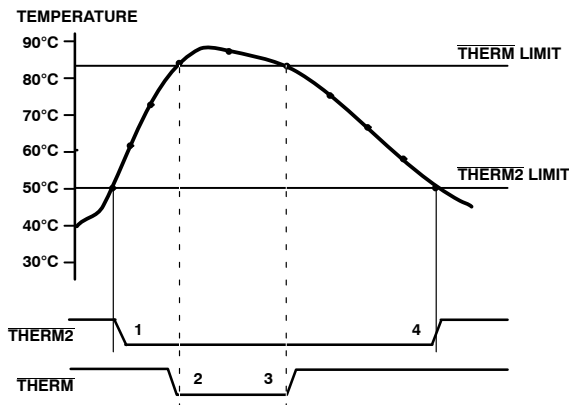

Figure 20. Operation of the $\overline{\text{THERM2}}$ Interrupts
Figure 20 shows how $\overline{\text{THERM}}$ and $\overline{\text{THERM2}}$ operate together to implement two methods of cooling the system. In this example, the $\overline{\text{THERM2}}$ limits are set lower than the $\overline{\text{THERM}}$ limits. The $\overline{\text{THERM2}}$ output is used to turn on a fan.
- The $\overline{\text{THERM}}$ output deasserts (goes high) when the temperature falls to $\overline{\text{THERM}}$ limit minus hysteresis. In Figure 20, there is no hysteresis value shown.